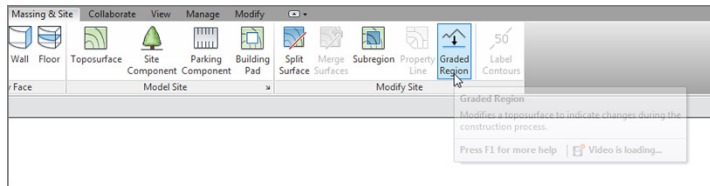

FIGURE 18.36: The Graded Region button
7. On the Massing & Site tab, click the Graded Region button, as shown in Figure 18.36.